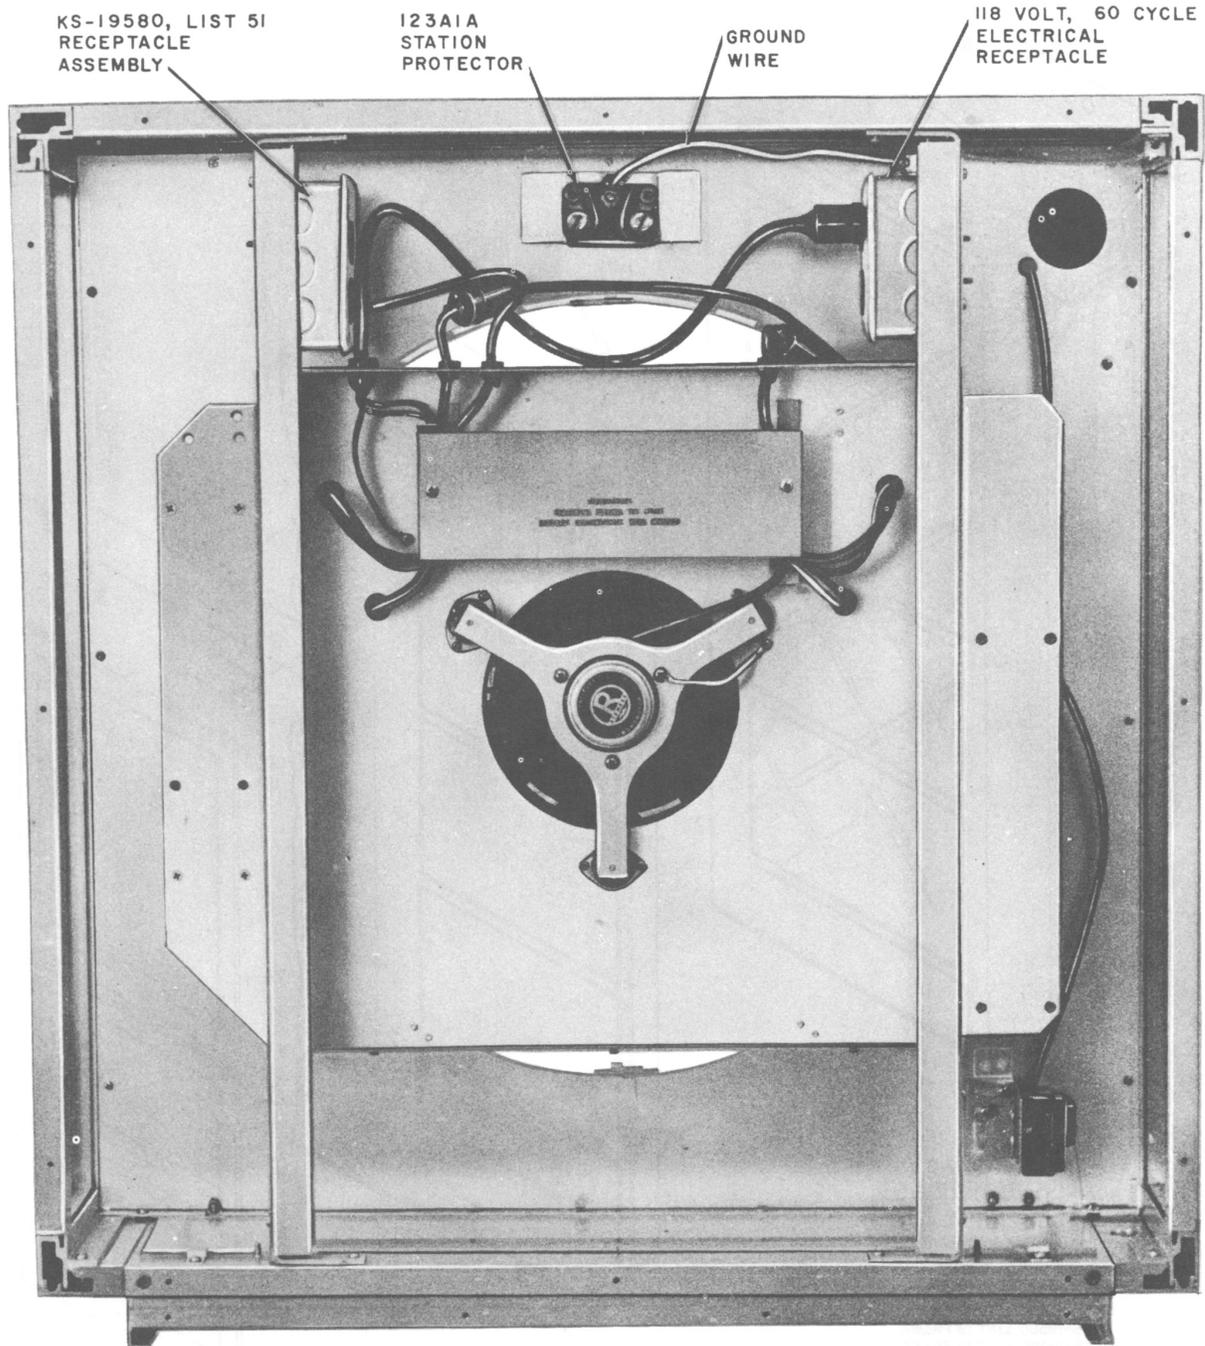

Fig. 9 — KS-19425 Booth Ceiling Area
10.04 Install List 51 receptacle assembly on the mounting plate provided on the cross brace above the ceiling (Fig. 9).